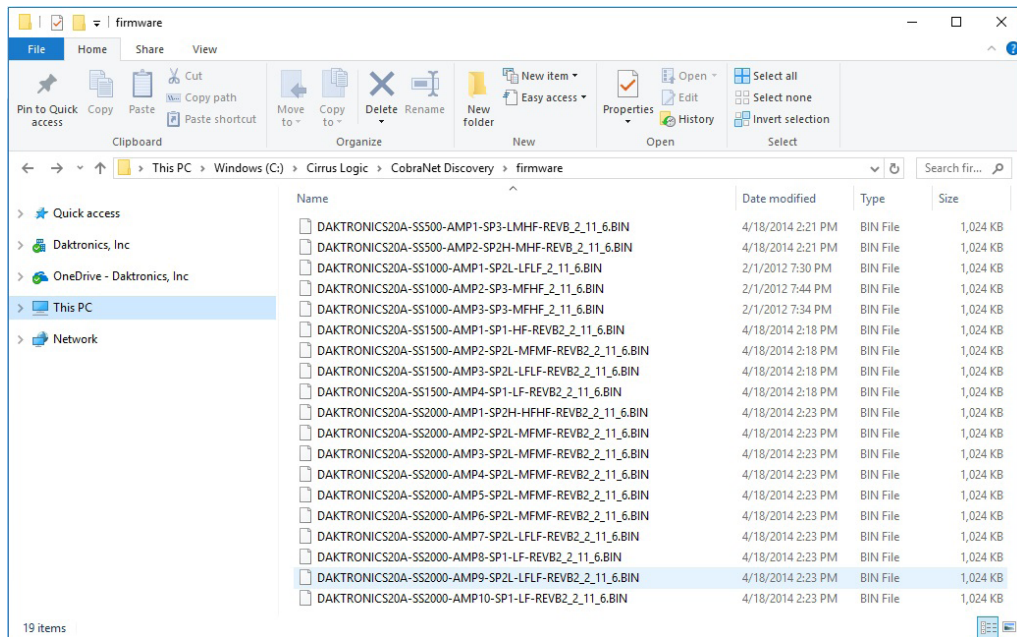

Figure 15: CobraNet Firmware Files
2. Copy all firmware (.bin) files from the unzipped folder into "C:\Cirrus Logic\CobraNet Discovery\firmware" (**Figure 15**).